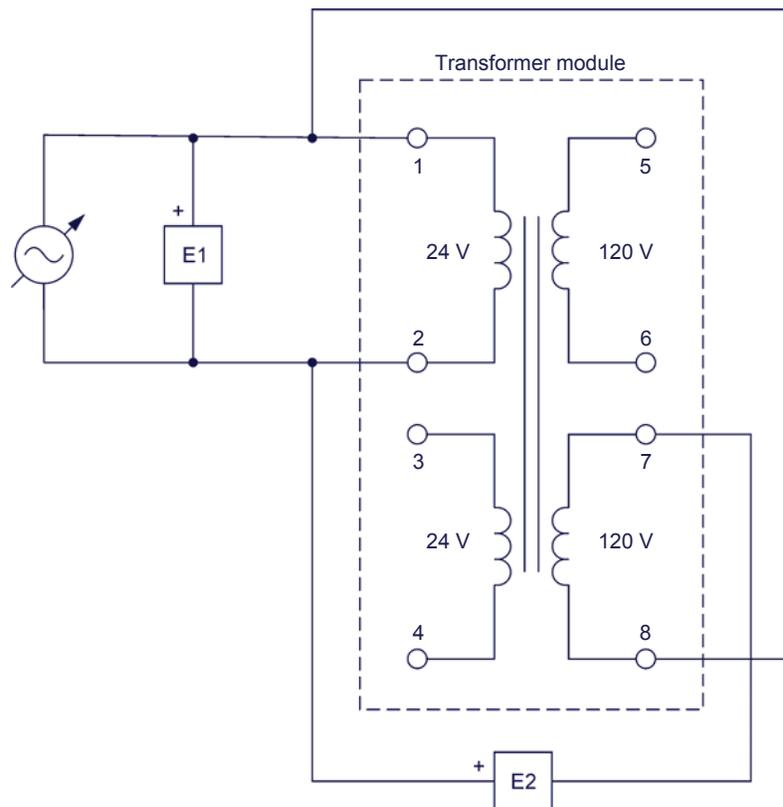

Figure 18. Circuit for determining transformer winding polarity using a voltmeter.
21. Connect the equipment as shown in Figure 18. In this circuit, the other secondary winding (winding 7-8) of the power transformer is connected in series with the primary winding (winding 1-2).